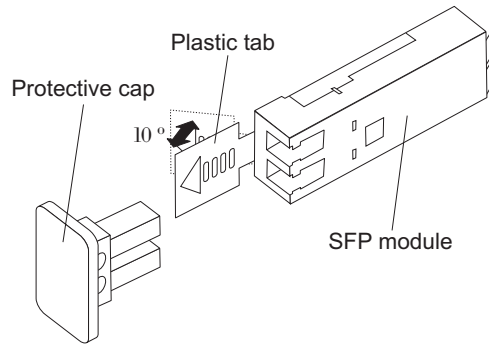

Figure 36. Unlocking the SFP module latch - plastic variety
- For SFP modules that contain plastic tabs, unlock the SFP module latch by pulling the plastic tab outward 10°, as shown in Figure 36 on page 61.